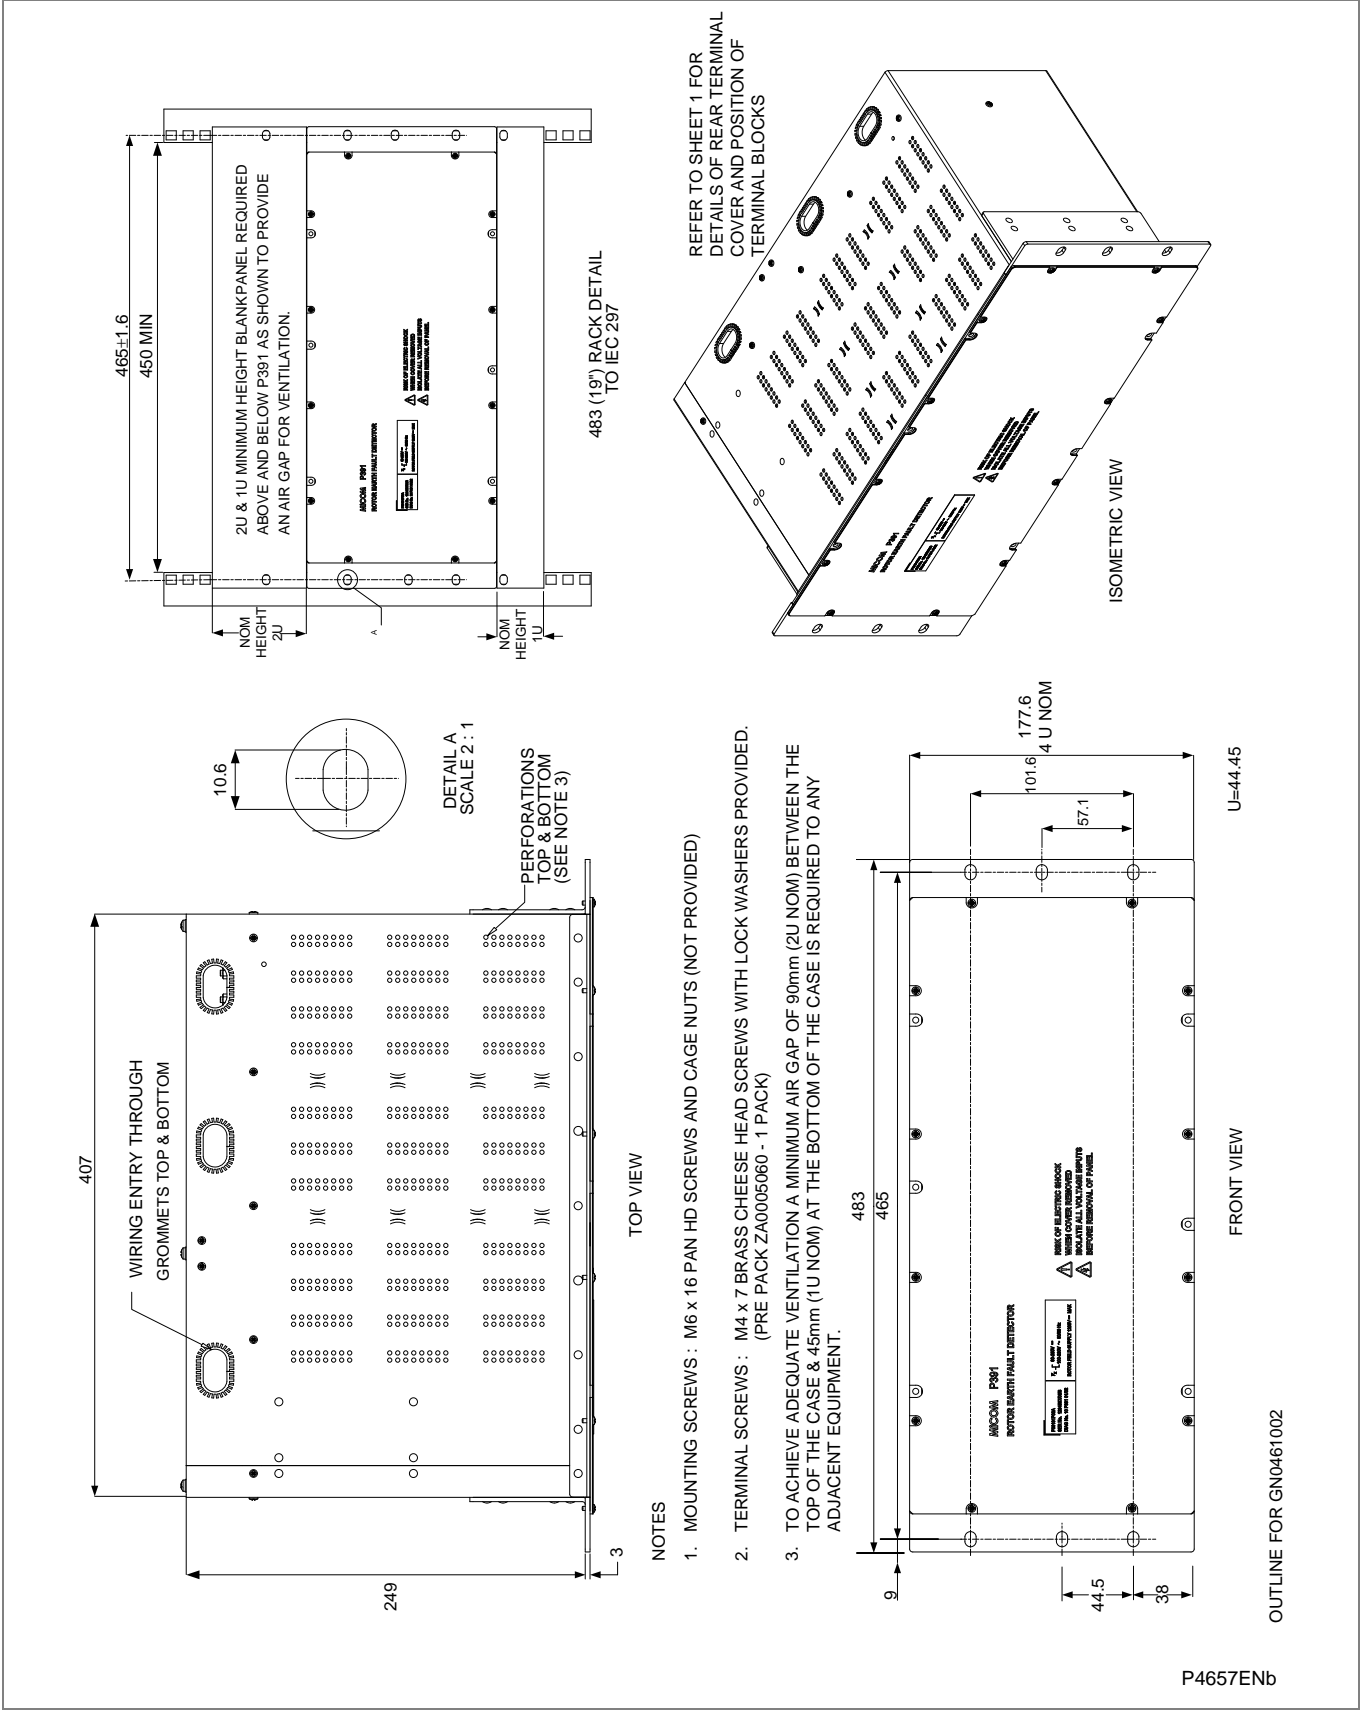

Figure 4 - P391 outline and rack mounting details (80TE case)
- Figure 4 - P391 outline and rack mounting details (80TE case)